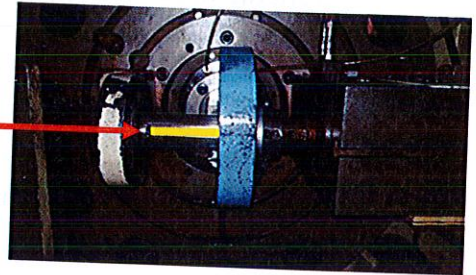

Figure 6: Key way position shown in the back of the machine
- Wind the machine over by hand until the keyway in the back of the machine is in the position shown in figure 6.